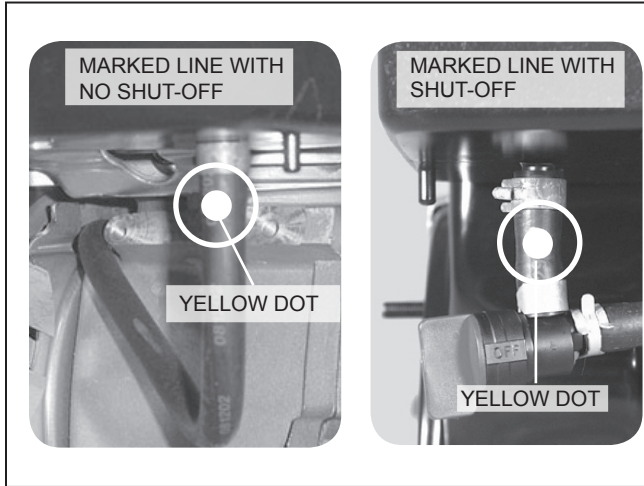

Figure 3
2. Engines in the affected D.O.M. range that have been repaired will have a YELLOW paint mark on the fuel line, adjacent to the fuel tank outlet (fig. 3).
7. Next use a permanent YELLOW paint marker to place a dot on the line as shown in (fig. 3) to mark the unit as repaired. These paint markers are available at many hardware or automotive stores.